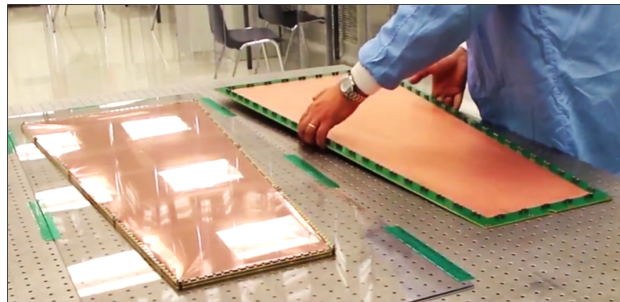

Figure 91: Preparing the transfer of the GEM stack.
Step 6: Without touching the active area, place the drift board just next to the GEM stack (Fig. 91).